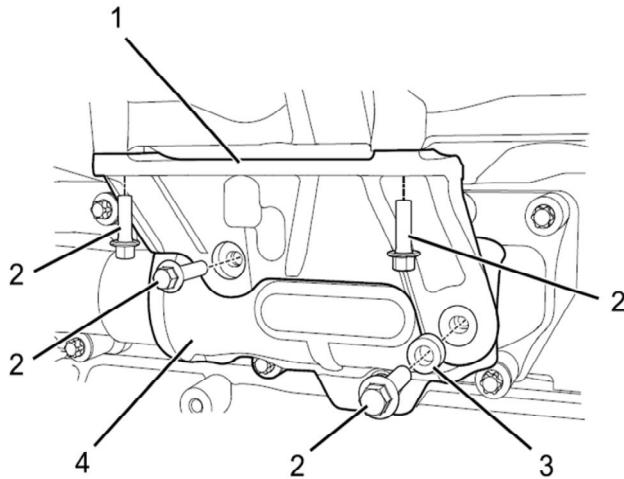

Figure 23: EGR Cooler L-Bracket
24. Remove EGR cooler L-bracket (**Figure 23**, Item 1)